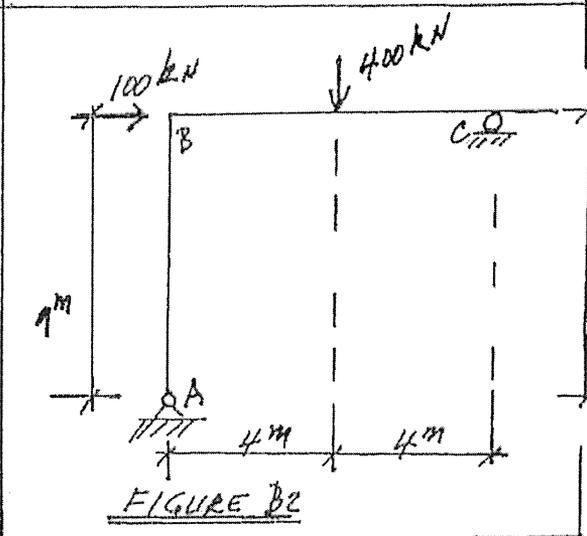

FIGURE B2
- B2. Figure B2 shows the profile of a determinate reinforced concrete frame, ABC. Design a rectangular cross-section and the reinforcing for flexure and shear of beam BC and the column AB. Show the layout of the reinforcement. (Use  $f'_c = 35$  MPa and  $f_y = 400$  MPa.)
- C1. The determinate frame ABC in Figure B2 is to be designed in timber for a storage building. Design a Douglas-fir glulam rectangular section for the frame, loaded as shown, to satisfy the following conditions: (a) permanent load duration; (b) dry service conditions; and (c) treated.